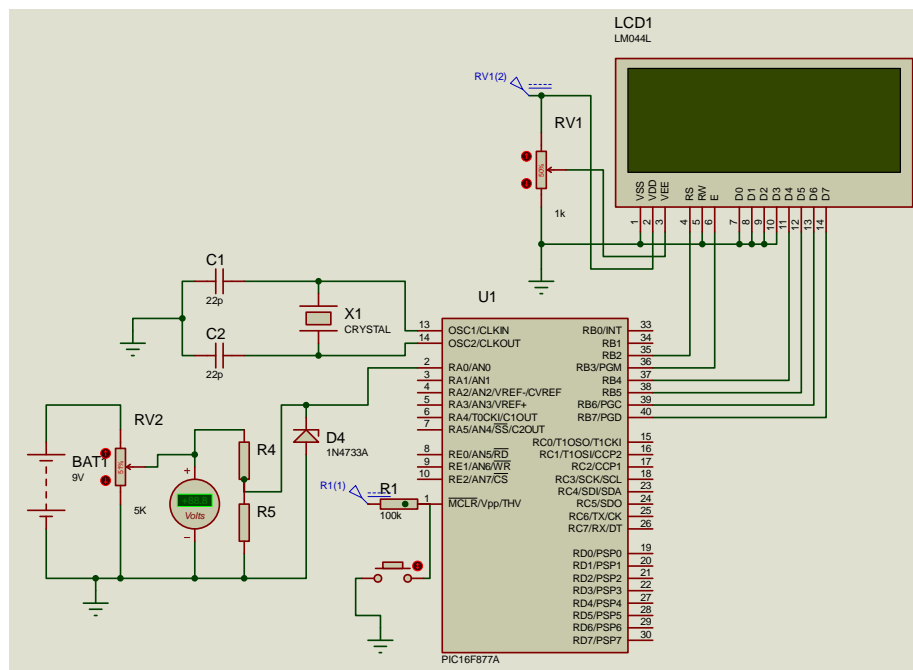

Figure 5: Voltage Measurement system
- b) Modify your program in a) to display on the LCD a number read from the analogue input pin (ADC) of your microcontroller. The number read should be the voltage of a 9V battery source as shown in figure 5.